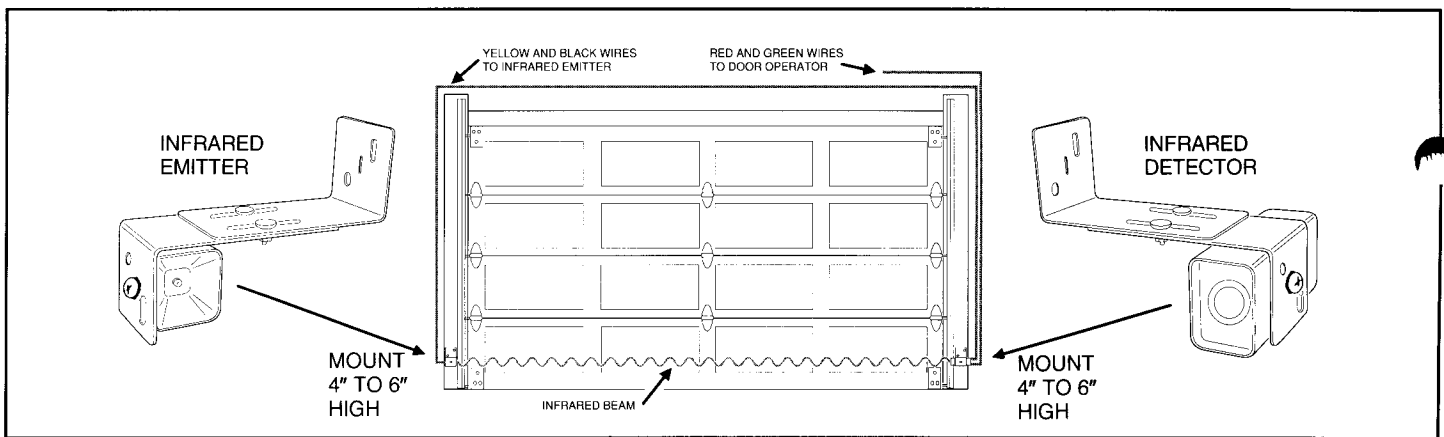
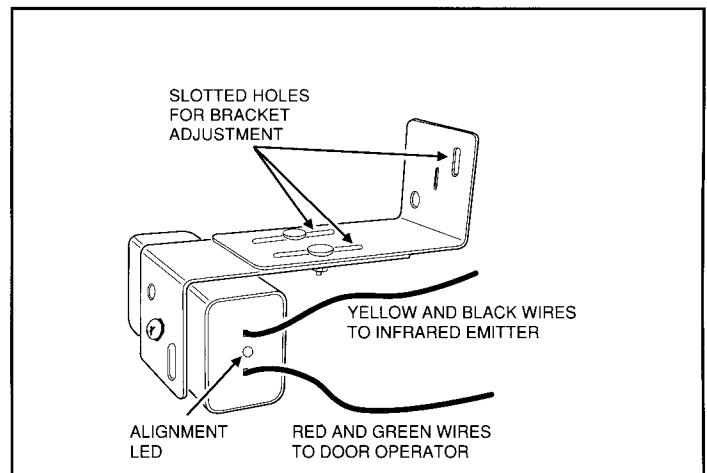

Figure 17
Figure 18
Step 38: Install emitter and detector inside garage on each side of garage door. Sensors must be positioned at the same height (approximately 4" to 6" above the floor). Directional arrows on the sensor labels must point toward each other and be horizontal to the floor. (See Figures 17 and 18)
For each bracket assembly, attach mating bracket using the carriage bolts and nuts, as in Figure 17. Do not completely tighten nuts yet. Position detector in bracket as shown in Figure 18. Fasten detector to bracket with phillips head screw. Do the same with emitter.
Step 40: Run the yellow and black wires attached to the detector up and over the door to the terminals on the emitter. Attach wires to emitter terminals by color as shown on label. (See Figure 17) Use insulated staples to fasten wires to walls surrounding garage door.